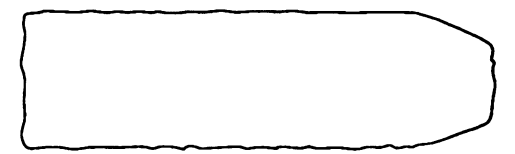

Fig. M11
5. When the envelope is as shown in Fig. M11, adjust the height of Guide Roller [3] (Refer to Fig.M3) so that the waveform looks like the one shown in Fig. M12.